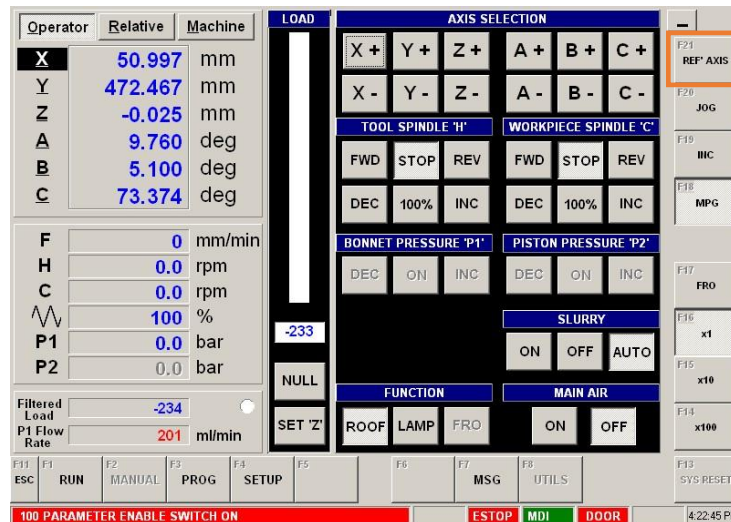

Figure 13 - Manually position A & B axes
2. Select the “REF' AXES” button as shown in (Figure 13 - Manually position A & B axes).